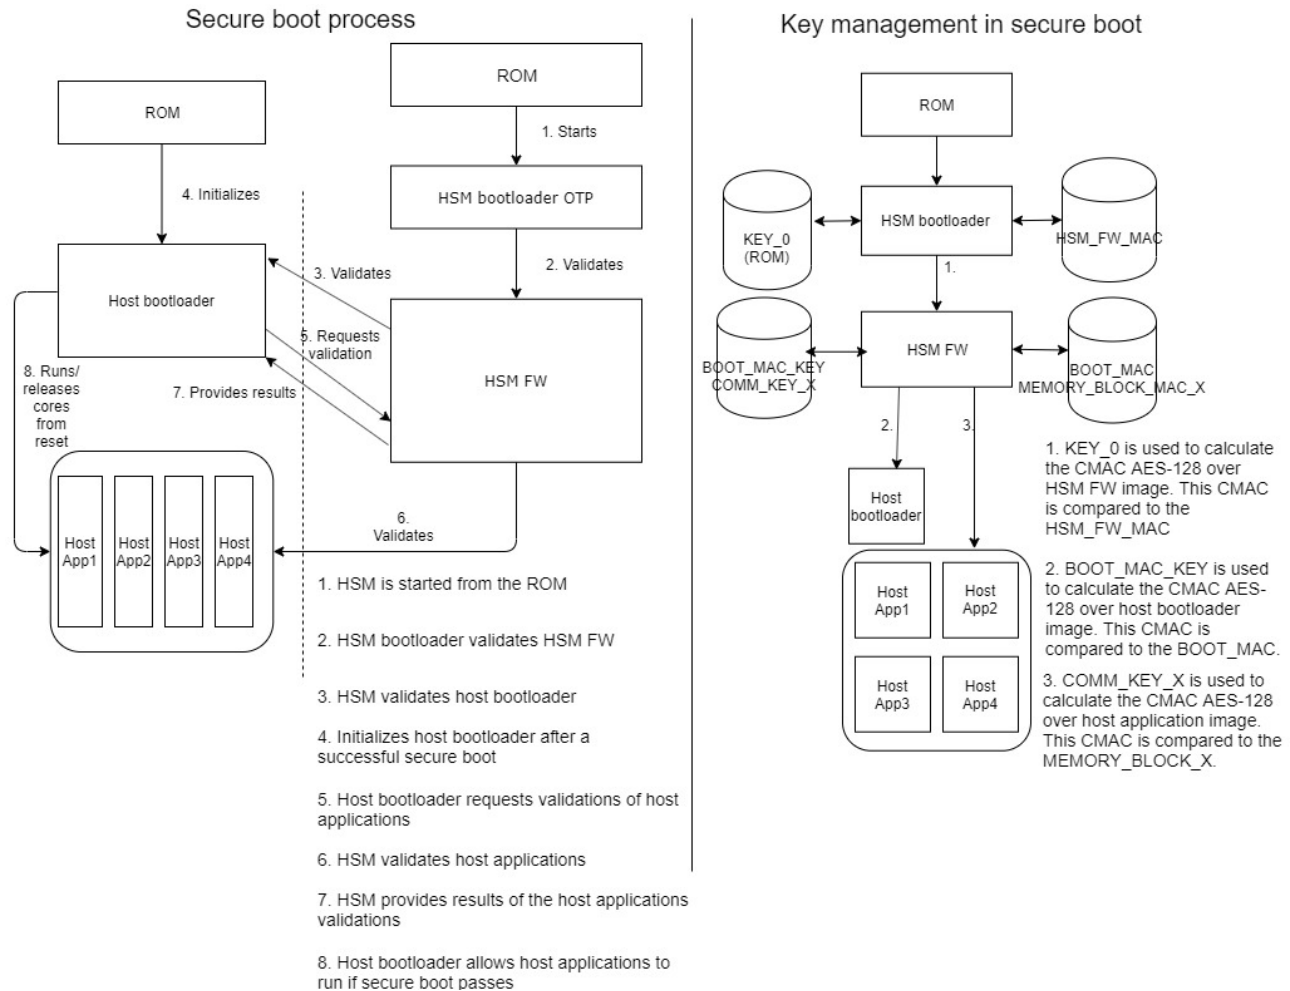

Figure 3.3. TC3XX secure boot procedure
- ▶ TC3XX specific secure boot procedure: Figure 3.3, “TC3XX secure boot procedure”